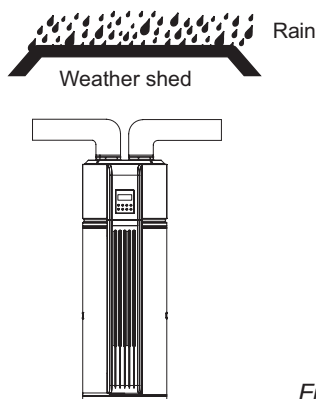

Fig. 5-8
- It is recommended to provide a weather shed in case ducts are exposed to rain or snow (Fig. 5-8).